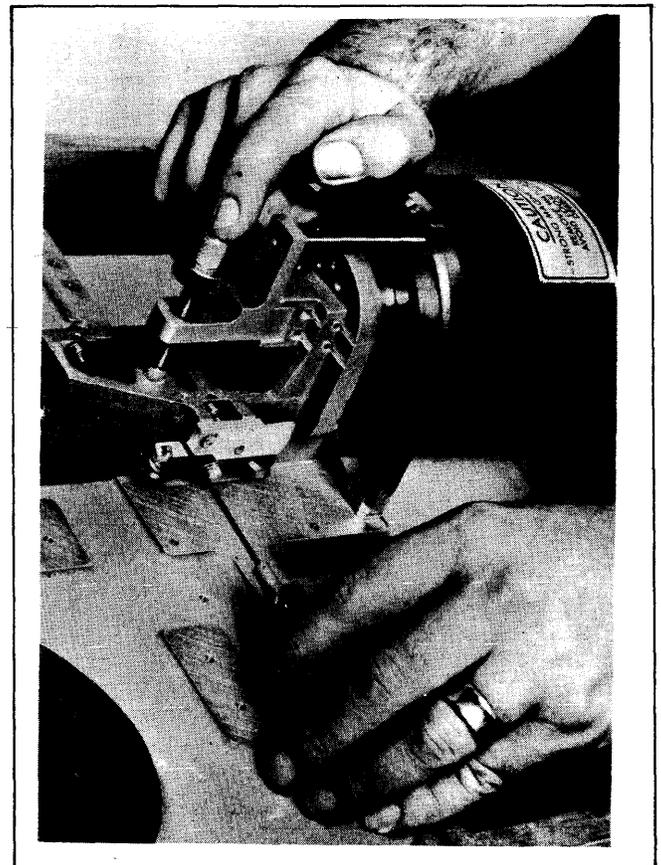

Figure 5-12. Transducer Wiper Adjustment Tool
- a. Install position transducer wiper adjustment tool in place with short locator pin in bottom head hole in carriage assembly (figure 5-12). Ensure the tool blade is engaged in slot in top of the wiper mounting block, secure tool by tightening head position lock screw.